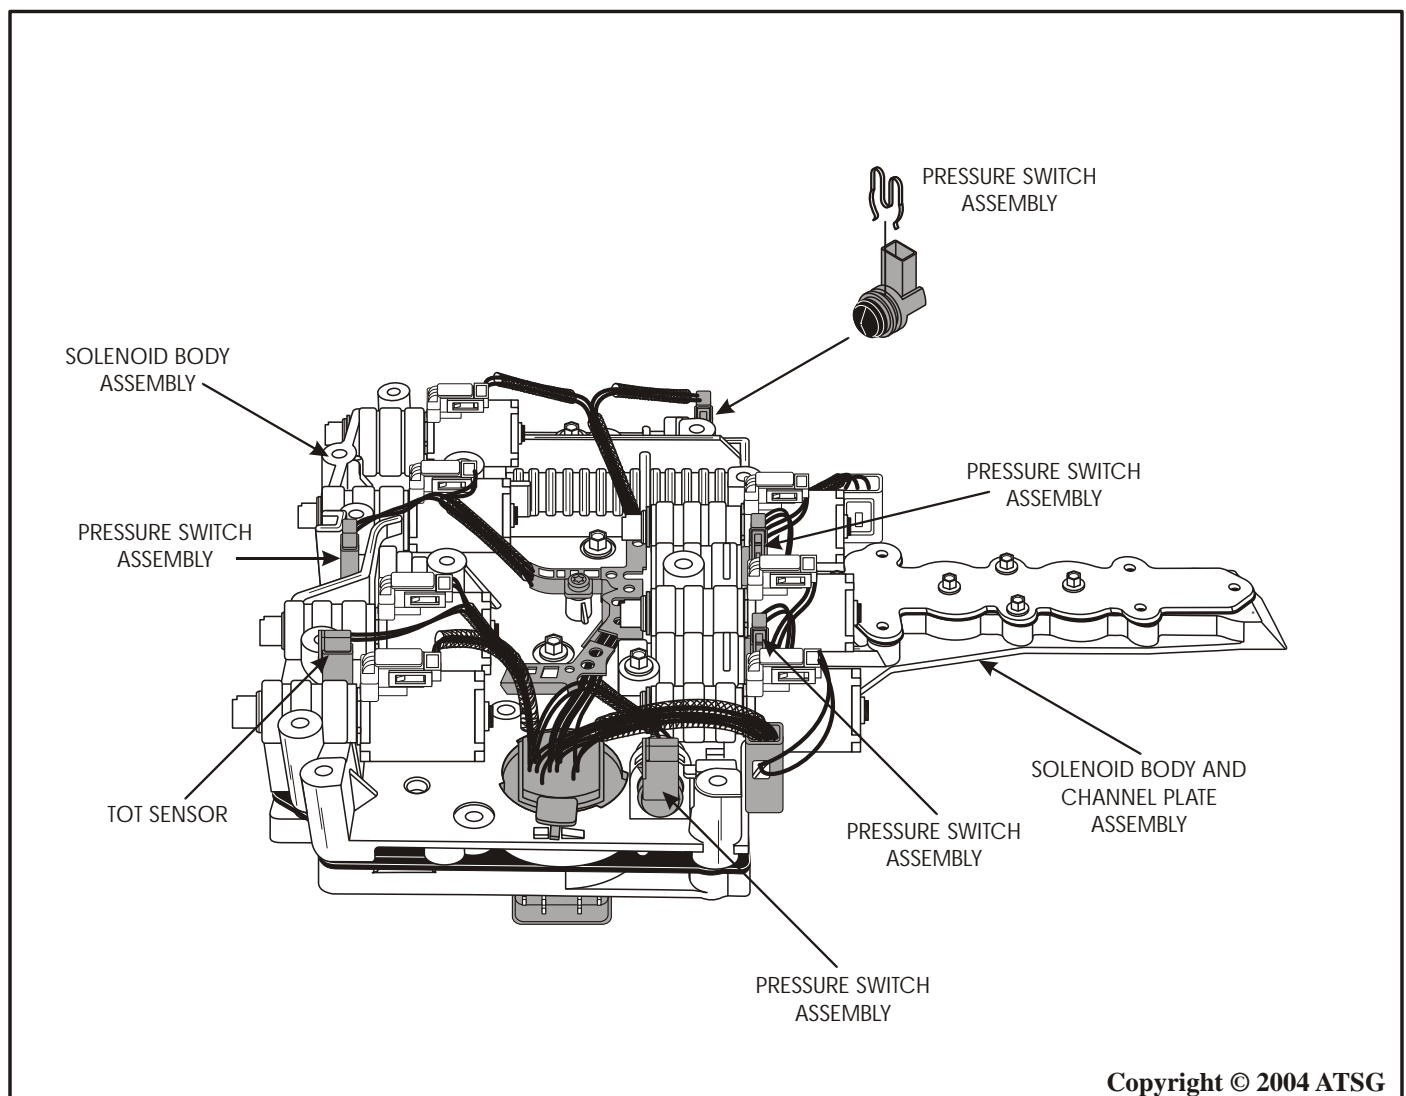

Figure 1
2. You may have to install a new service solenoid body, without pressure switches, into a unit that has the original internal harness with pressure switch connectors. (See Figure 1 for locations)
CHANGE: The rear planetary carrier assembly and rear ring gear hub have been changed for the 2005 production year because of pinion shaft movement in the carrier. Exploded view of all low/reverse clutch parts is provided for you in Figure 1.